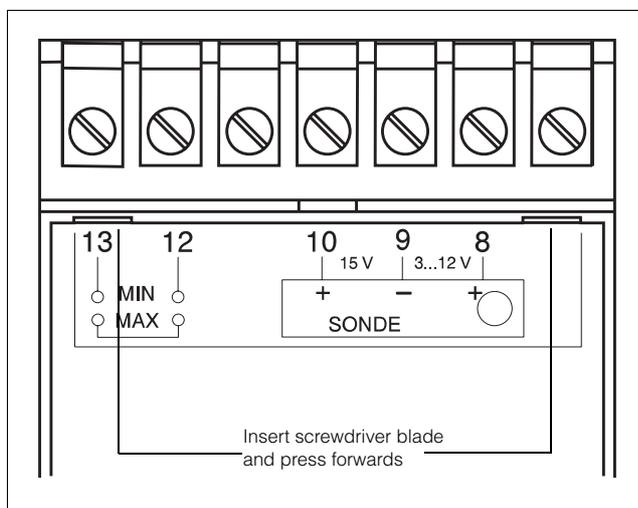

Fig. 9
- Insert a screwdriver blade into the front panel release points, see Fig. 9, and gently prise forward.